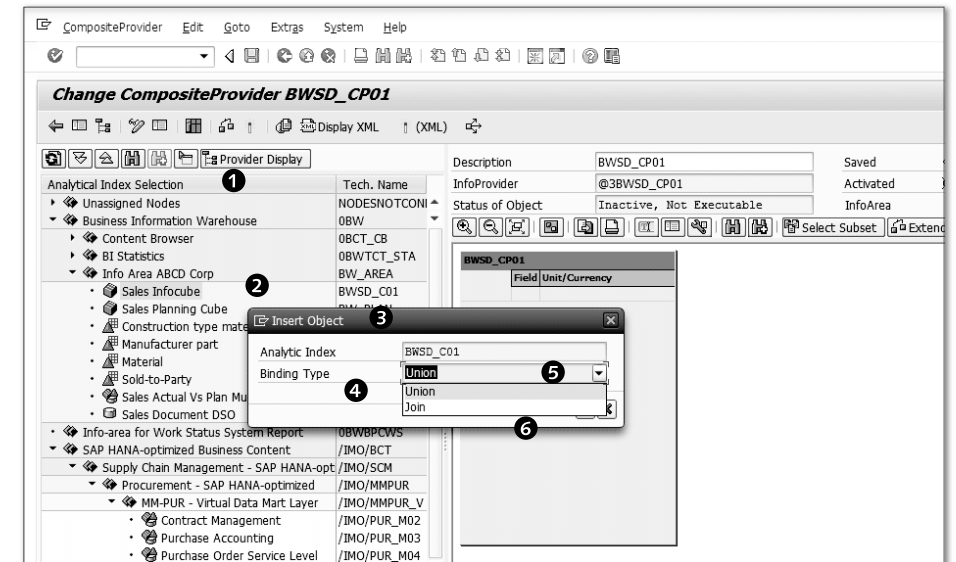
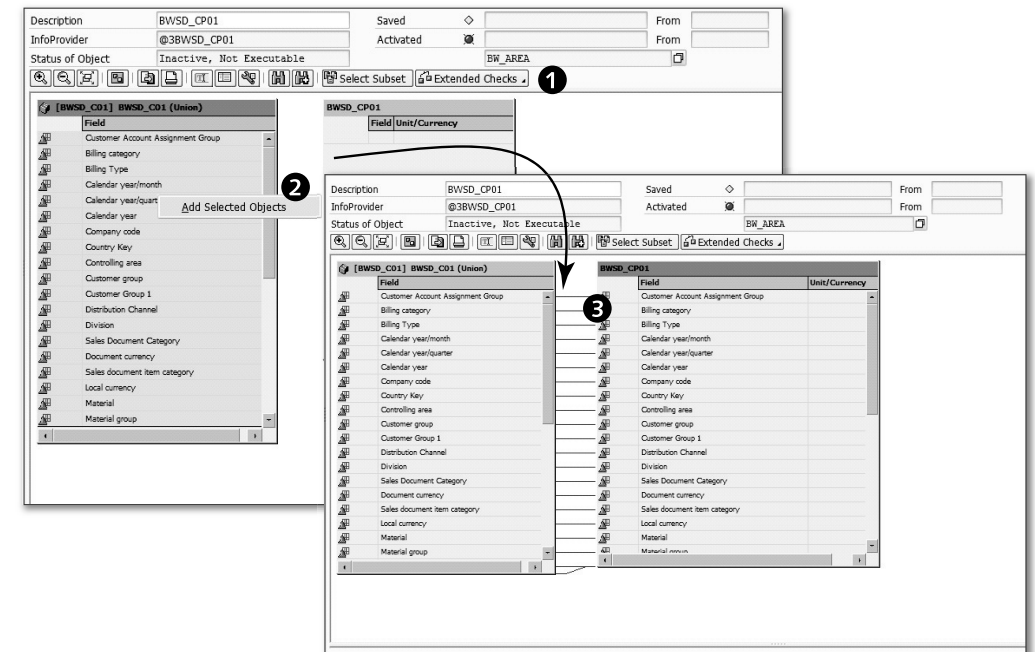

Figure 6.70 Inserting an Object
Figure 6.71 Defining a CompositeProvider: Part 1
From the left side panel, select InfoCube BWS_D_C01 (2 in Figure 6.70), and drag and drop it into the right panel. In the pop-up that appears (3), select a BINDING TYPE (5). In this example, we chose UNION for the purpose referred to earlier. Click on the CONTINUE icon (6), and the object is now available in the right panel (1 of Figure 6.71).
Select the local objects in BWS_D_C01 that should be included in the CompositeProvider definition (2 of Figure 6.71). From the context menu, select ADD SELECTED OBJECTS to add the selected objects to the CompositeProvider definition (3).
All the characteristics of the inserted object are mapped 1:1 in the CompositeProvider (refer to 3 of Figure 6.71).